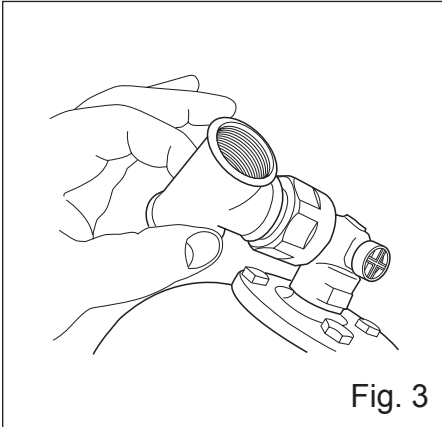

Fig. 3
3. Connect the  $\frac{3}{4}$ " FBSP tee piece onto the anti legionella valve and tighten with a spanner, the connection is sealed by an oring so extra washers and PTFE tape are not needed. The tee piece remains rotatable through  $360^\circ$  when tightened (Fig. 3).